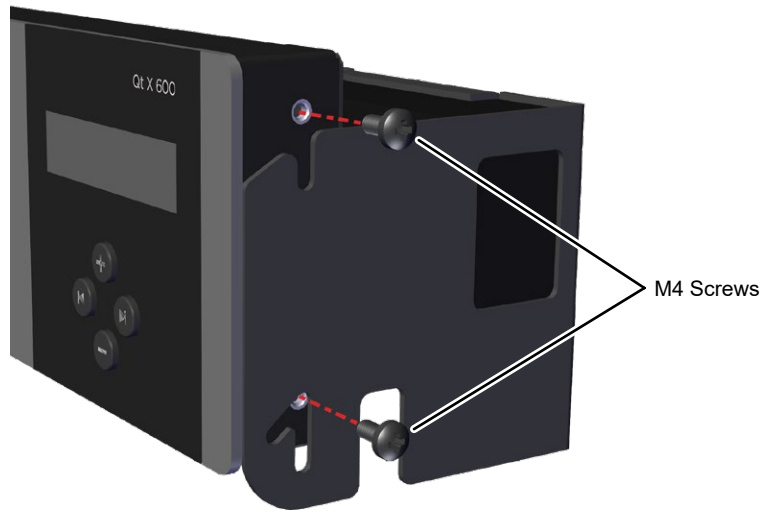

Figure 1. Remove screws and panel from wall mount bracket
1. If necessary, remove the existing wall bracket from the controller (Figure 1) and reserve the M4 screws to attach the rack mount brackets.